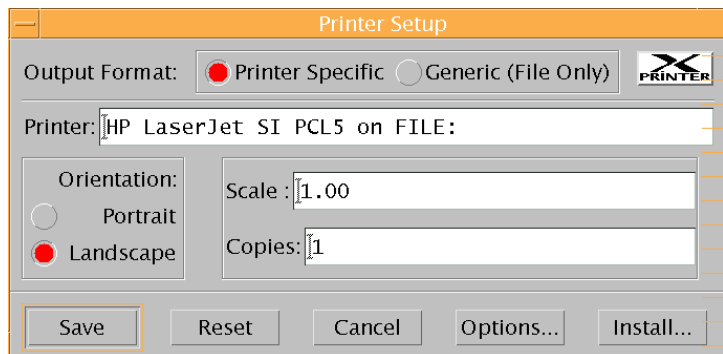

Figure B-2. Printer Setup Dialog Box
2. **Click Properties.** This displays the Printer Setup dialog box (Figure B-2).